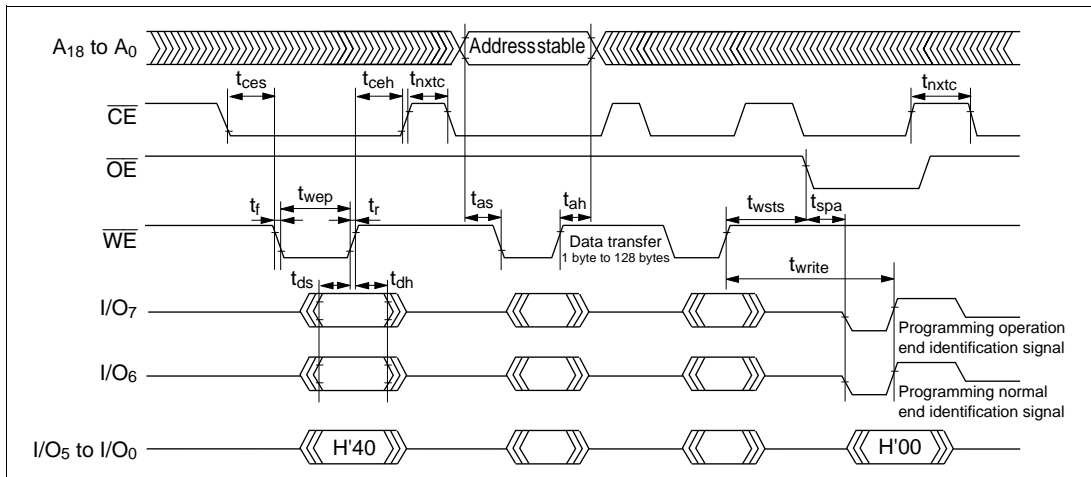

Figure 19-86 Auto-Program Mode Timing Waveforms
- Memory address transfer is executed in the second cycle (figure 19-86). Do not perform transfer later than the second cycle.